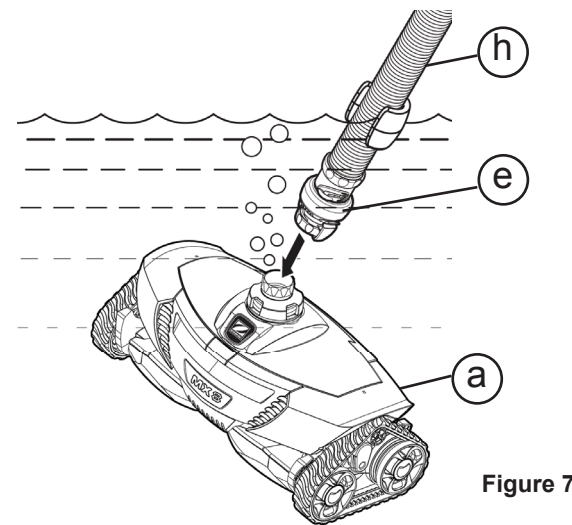

Figure 7
4. Connect the hose to the cleaner head by pushing the flow regulator valve (e) onto the cleaner (Figure 7).